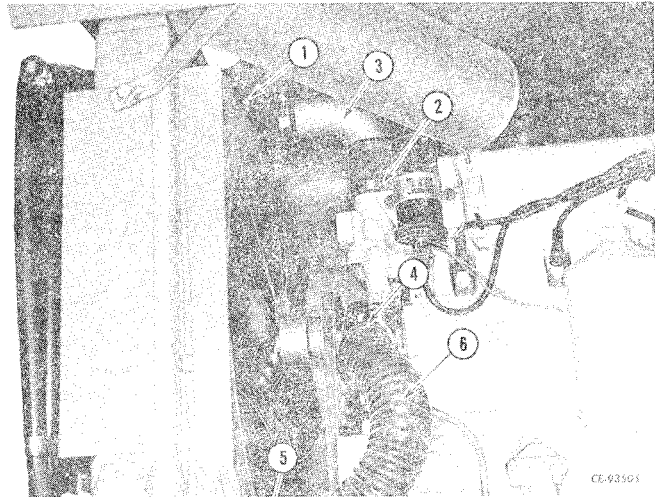

Figure 2-18
Drain radiator by loosening pet cock. Loosen hose clamps (1, 2, Fig. 2-18) and remove tube assembly (3). Loosen hose clamps (4, 5) and remove hose (6).
Install hoses (3, 6, Fig. 2-18) between radiator and engine. Tighten hose clamps (1, 2, 4, 5). Close pet cock. Fill radiator with clean or fresh coolant. Refer to "SERVICE INFORMATION" for type and quantity.